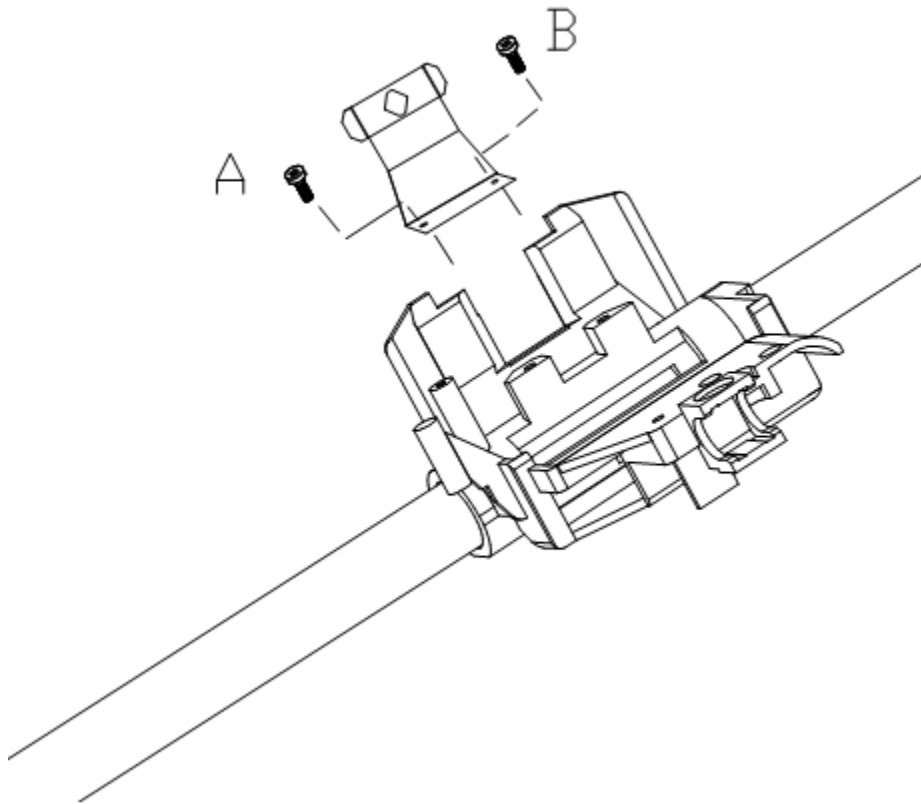

Figure 2. Printhead Mask Removal
- 8) Unscrew the screws A and B securing the print head mask on the carriage assembly. (figure 2)